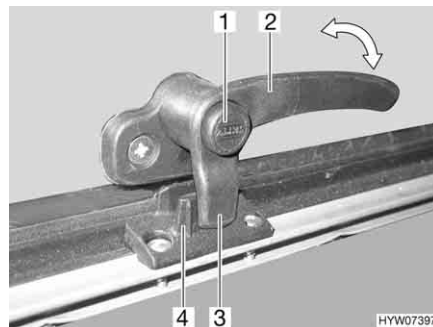
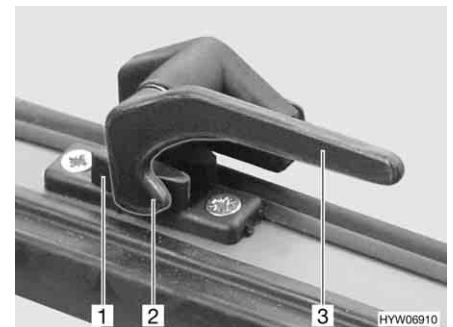

Fig. 94 Catch lever with safety knob in "closed" position
Fig. 95 Catch lever in "closed" position
Opening: ■ Press and hold the security button (Fig. 94,1), if present.
■ Turn all catch levers (Fig. 94,2 or Fig. 95,3) a quarter turn towards the centre of the skylight.
- Press and hold the security button (Fig. 94,1), if present.
- Turn all catch levers (Fig. 94,2 or Fig. 95,3) a quarter turn towards the frame. The locking catch (Fig. 94,3 or Fig. 95,2) is located on the inside of the skylight lock (Fig. 94,4 or Fig. 95,1).
- "Firmly closed" (Fig. 94 and Fig. 95)